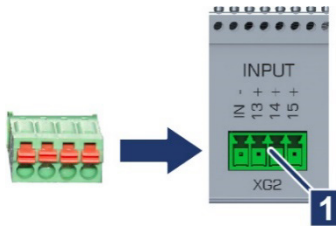

Abb. 6-5: Klemmenblock in *XG2 (INPUT 13-15)*
1. Passenden Klemmenblock am X-Controller in die Buchse *XG2 (INPUT 13-15)* stecken (→ Abb. 6-5/1).